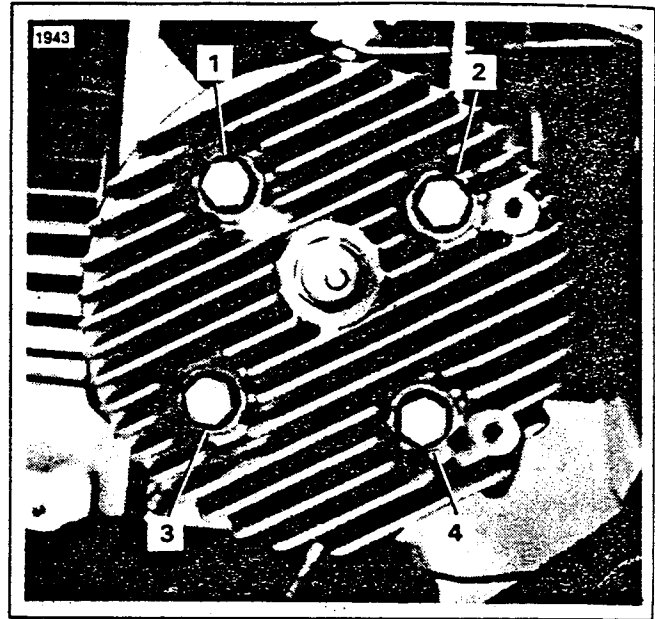

Figure 5-14. Head Bolt Torque Sequence
7. Clean the cylinder and cylinder head mating surfaces. Install head gasket, cylinder head and bolts. See SPECIFICATIONS at the beginning of this section for cylinder head bolt torque. See Figure 5-14. for cylinder head bolt torque sequence. Tighten evenly, 10 ft-lbs at a time.